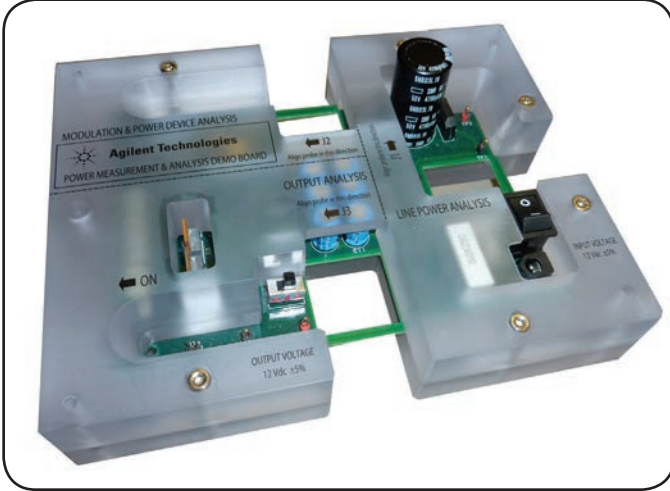

Figure 1: Agilent’s Switch Mode Power Supply Measurements Training Kit.
- Your Switch Mode Power Supply (SMPS) or Agilent’s SMPS Measurements Training Kit (Figure 1)